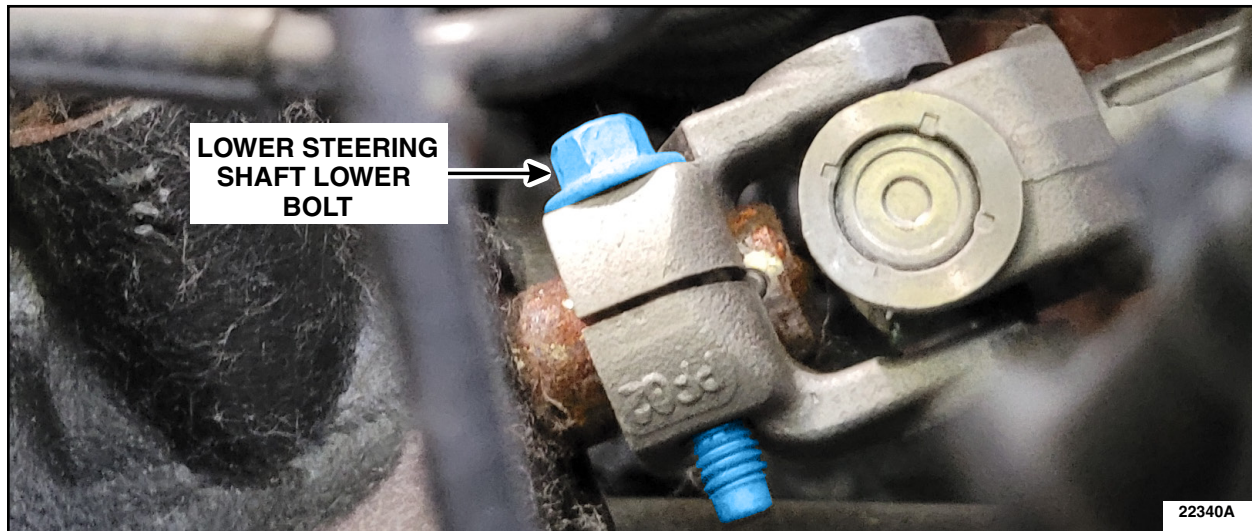

FIGURE 1
1. Looking through the driver's side wheel well, locate the lower steering shaft lower bolt. See Figure 1.